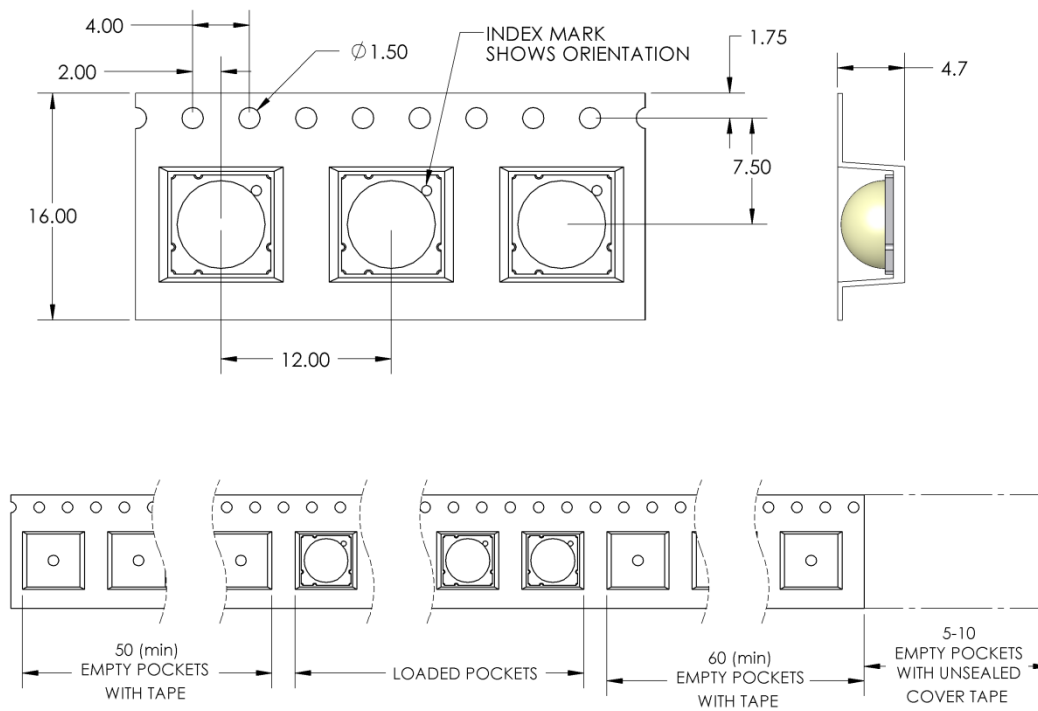

Figure 10: Emitter carrier tape specifications (mm).
- Maximum DC forward current (per die) is determined by the overall thermal resistance and ambient temperature. Follow the curves in Figure 10 for current derating.